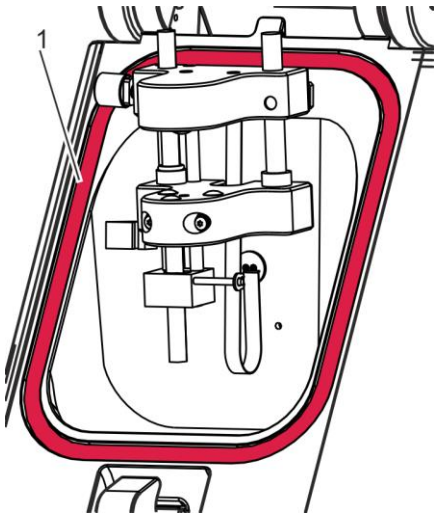

Fig. 31: Removing the O-ring
1. Remove the O-ring (Fig. 31/1) with tweezers.